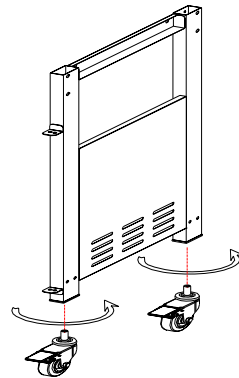

Figure 2
2. Attach the locking casters to the bottom of the right side panel legs. Then tighten caster screw securely using hex nut wrench provided in parts pack. (Fig.2)